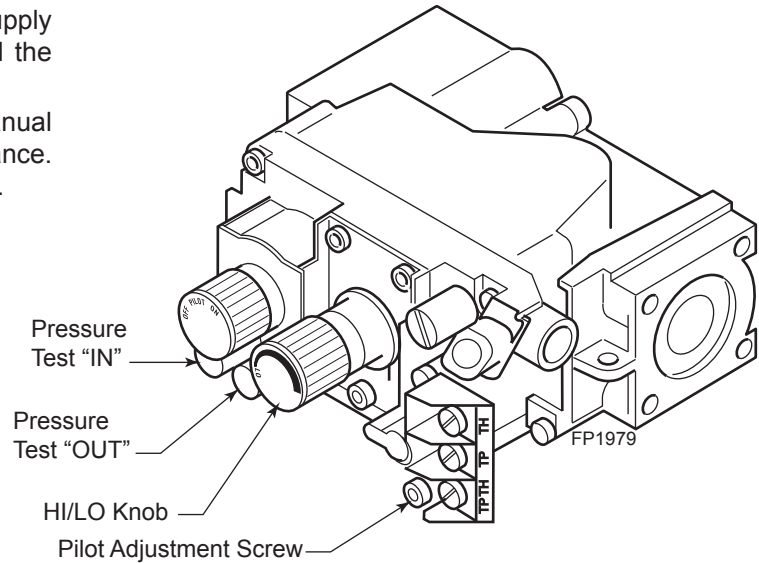

Figure 29 - Gas Pressure Check at Gas Valve
5. To check gas pressures at valve, turn captured screw counter clockwise 2 or 3 turns and then place tubing to pressure gauge over test point. Turn unit to high. *Figure 29.* After taking pressure reading, be sure and turn captured screw clockwise firmly to reseal. Do not over torque. Check test points for gas leaks with a soap and water solution.